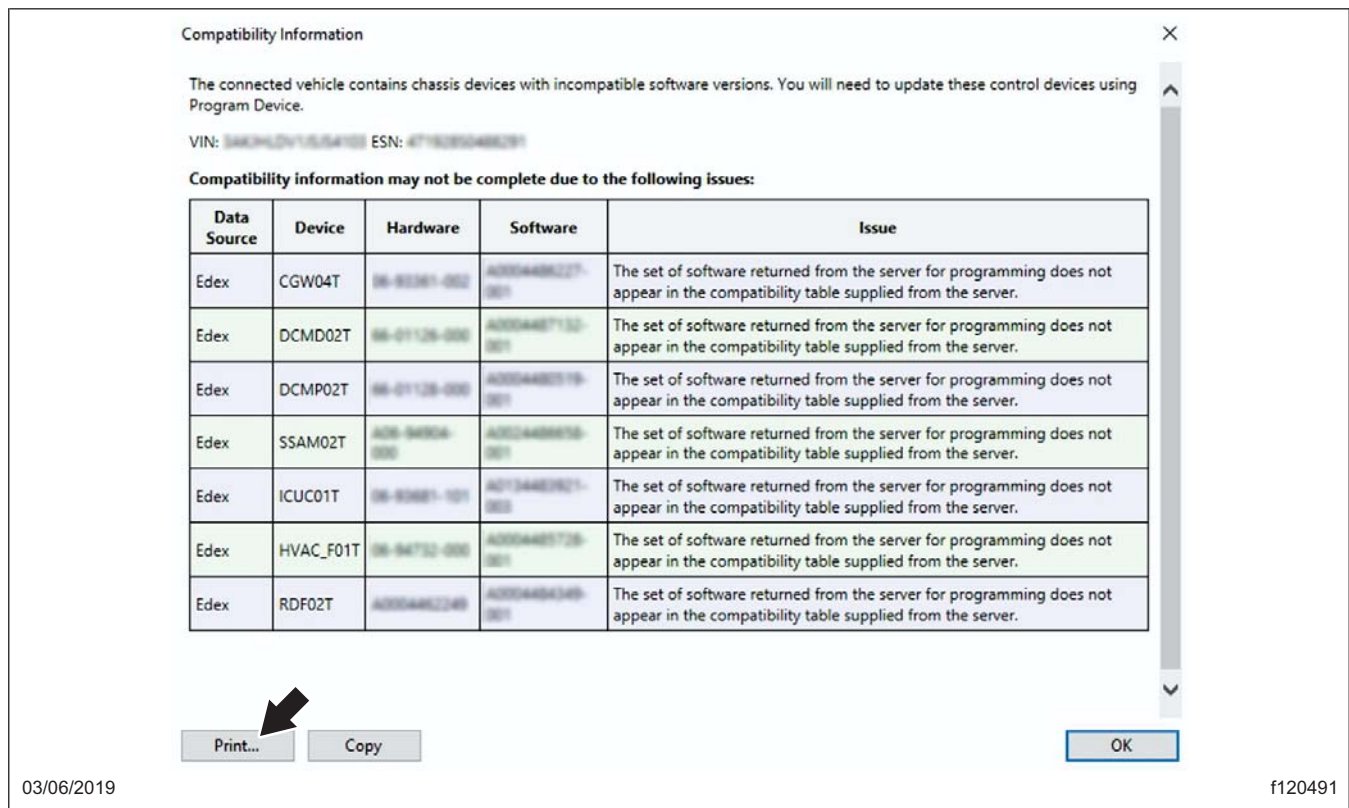

Fig. 6, Printing the Compatibility Information Window
- 12.1 Print, or capture a screen shot of the 'Compatibility Information' window; an example of this window is shown in Fig. 6.